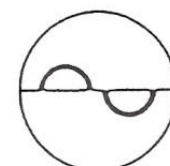

Fig. 1
3. Only after contact with the cornea should then the microscope be used. The steady pulsation of the two fluorescein semi-circles, the size of which, at 1g, will depend on the intraocular tension, indicate that the instrument is in the correct position for measurement, Fig. 1. Any necessary correction has to be made by the joystick for height or lateral adjustment control of the Slit Lamp, until the flattened area is seen as 2 semicircles of equal size in the middle of the field of view, see Fig. 1. (Should this not be case, observe information under *Sources of error*.)